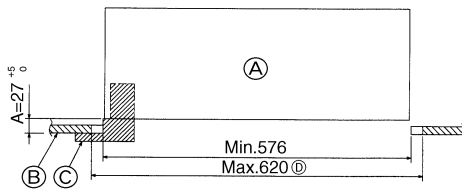

Fig. 8-2
①	Grille	1	650 × 650 (mm)
②	Screw with washer	4	M5 × 0.8 × 25 (mm)
③	Gauge	1
④	Fastener	2
⑤	Band	2
8.2. Preparing to attach the grille (Fig. 8-2)